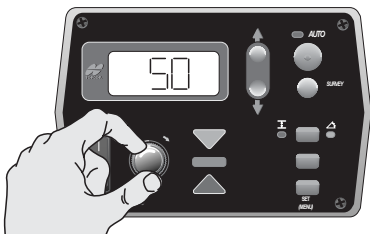

Figure 28. Select Value
- Turn the Grade Adjustment Knob to select the desired value (Figure 28).